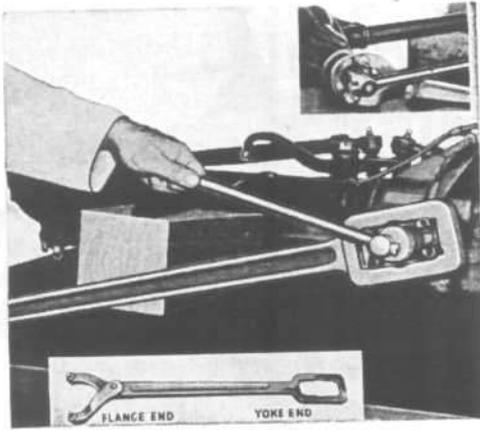

FIG. 247—FLANGE HOLDING WRENCH
- i. To remove the drive pinion, first remove the universal joint end yoke assembly. Use Tool C-784 to hold the shaft as shown in Fig. 247 while removing the nut. Use puller, Tool W-172, to remove the end yoke as shown in Fig. 208. Both of these tools are included in gauge set W-99-A.